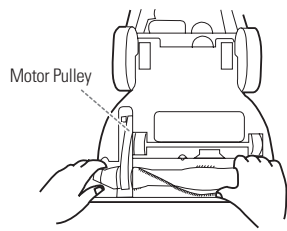

Fig. 26
- Set the new belt over motor pulley. (Fig. 26) Use replacement belt: **BLT1**.